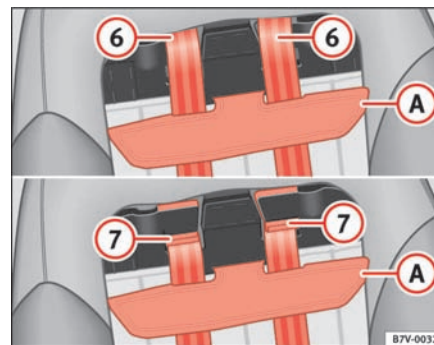

Fig. 36 Section of the integrated child seat: Adjusting the belt routing
- Pull the upper part ⇒ fig. 36 ① of the support off the Velcro fasteners to the front.
- For larger children, guide the two shoulder belts in the side slots to the upper position ⑥.
- Then push the support ① under the belts and secure it ⇒ ⚠.
The support ⇒ fig. 36 ① must be pressed onto the seat in the area of the Velcro fastener in such a way that the belts can move freely in the slots. ■